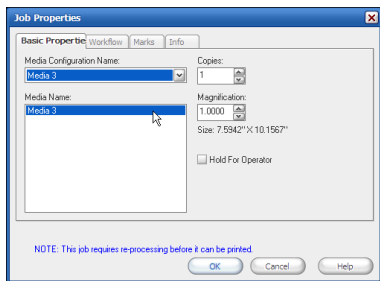

Figure 7—Job Properties
2. Click **Change**. This opens the Job Properties dialog (see Figure 7).